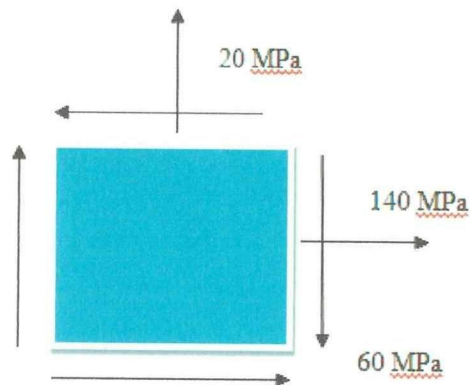

Figure Q6(b)
- Q6** (a) Give two (2) methods to compute principal stresses.. (2 marks)
- (b) The state of plane stress at a point on a body is shown on the element in the **Figure Q6(b)**. Draw the Mohr's Circle for the state of plane loaded. And determine :